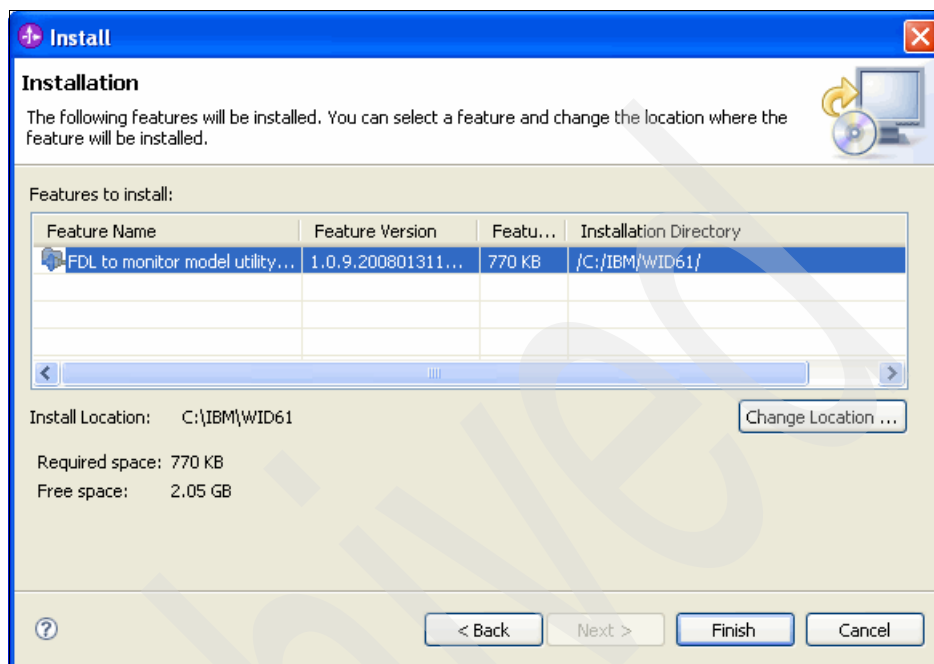

Figure 8-41 Summary of the installation information
10. In the Install – Installation window (Figure 8-41), review the installation information and click **Finish**.